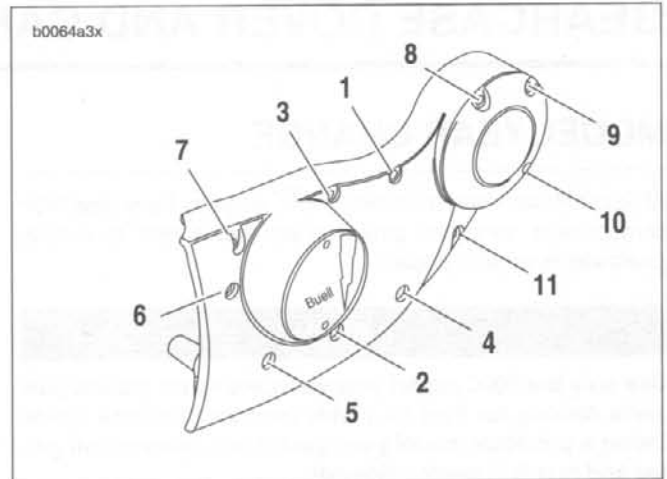

Figure 3-77. Gearcase Cover Mounting Screw Torque Sequence
5. Install gearcase cover over all gears and onto right crankcase half (10). Secure cover to crankcase half with 11 socket head screws. Tighten screws evenly to 80-110 **in-lbs** (9.0-12.4 Nm). Use torque sequence shown in Figure 3-77.